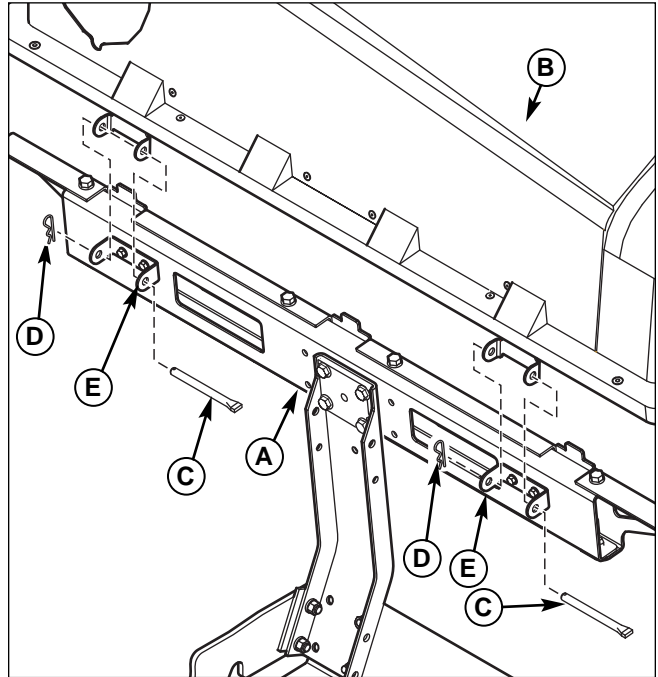

Figure 12. Install Cover Assembly
1. Attach cover assembly (B, Figure 12) to bag support bracket (A) using hinge pivots (E). Secure cover using cover hinge pins (C) and hair pins (D) as shown.